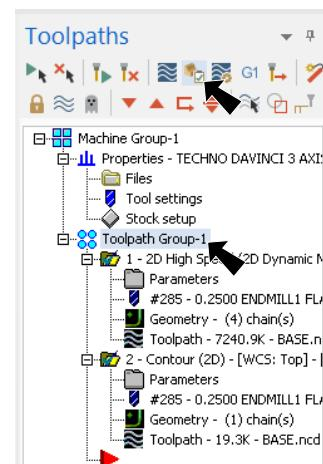
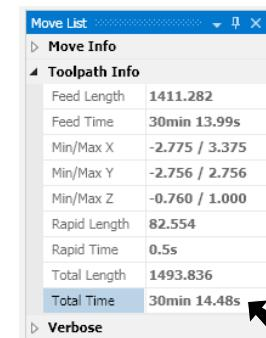

Fig. 62
Fig. 63
Step 1. Click **Toolpath Group-1** in the Toolpaths Manager to select **Dynamic Mill** and **Contour** toolpaths, Fig. 62.
Step 2. Click **Verify**  in the Toolpaths Manager, Fig. 62.
Step 3. Click **Play**  (R) in VCR bar.
Step 4. Note **Total Time** to run program under Toolpath Info in the Move List panel (**roughly 30 minutes**), Fig. 63.